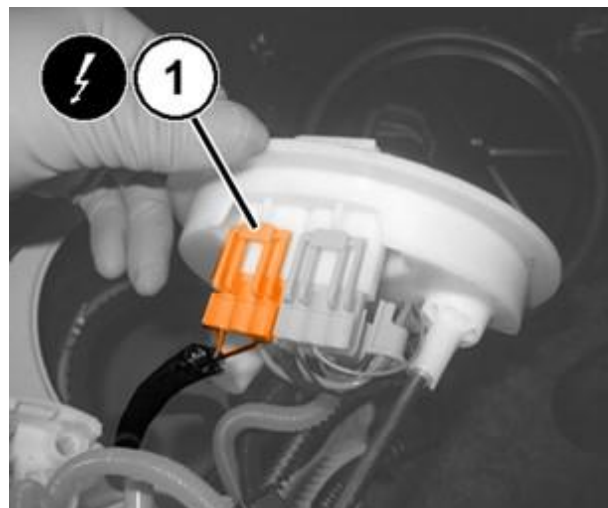

Figure 10 – Fuel Pump Harness Connector
20. Disconnect the wire harness connector (1) for the transfer chamber level gauge (Figure 10).